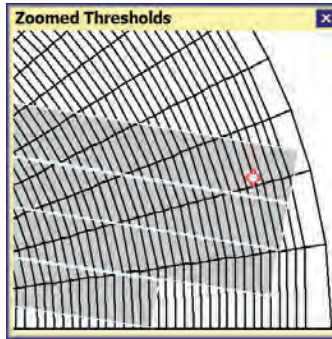

Figure 7.11 – Zoom In Feature
- **Zoom In** – Allows you to zoom in and change thresholds of selected areas in the sensor view (see Figure 7.11).